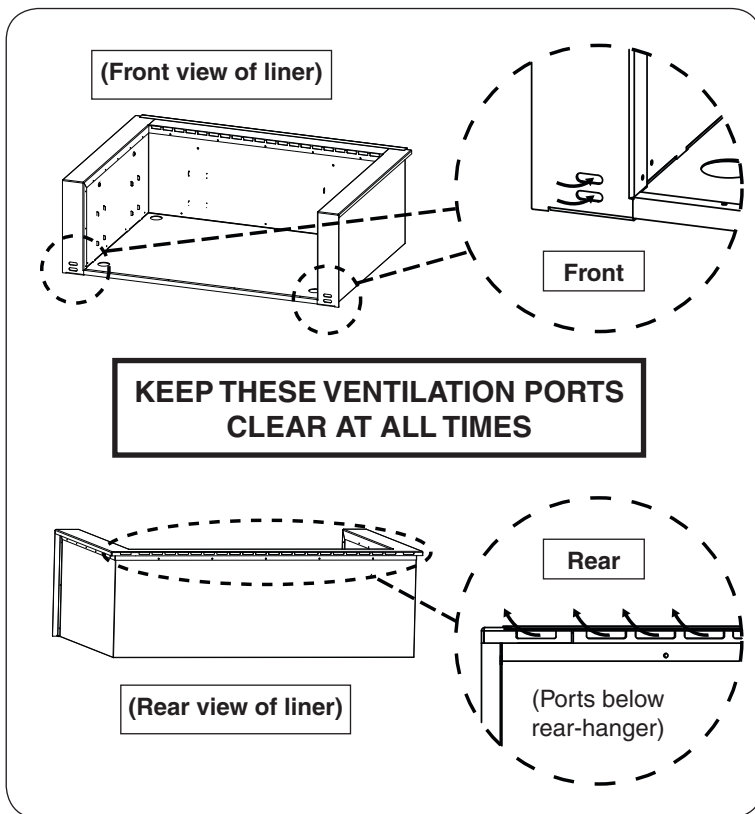

Fig. 4-3 Keep ventilation ports clear
**Note:** If possible, use the front hole for electrical feeds. See Fig. 4-3.
**VENTILATION PORTS LOCATED AT THE FRONT AND REAR OF THE GRILL INSULATING LINER SHOULD NEVER BE BLOCKED. KEEP CLEAR FOR PROPER VENTILATION OF THE UNIT. See Fig. 4-3.**